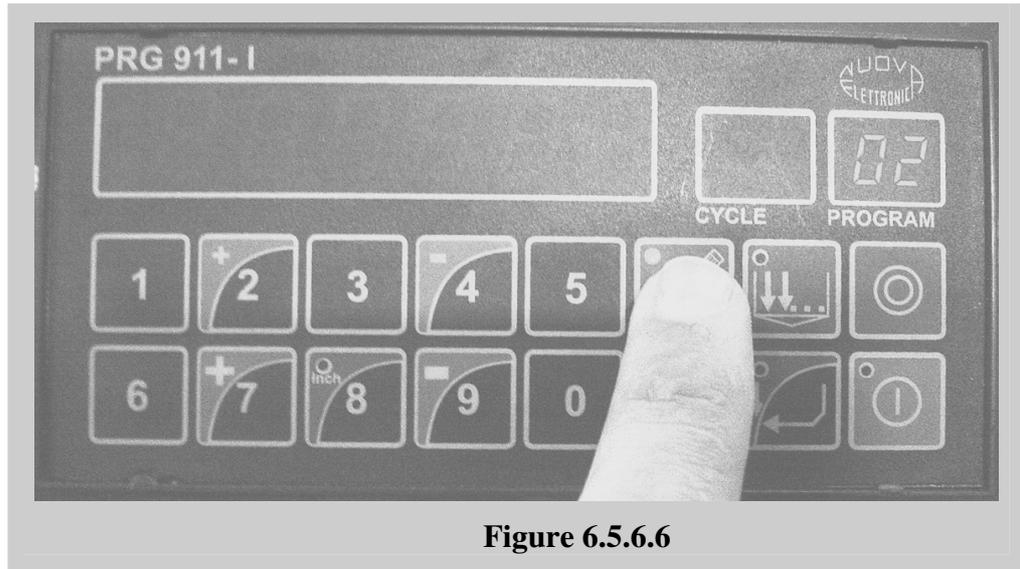

Figure 6.5.6.6
2. If you want to change the program number, write new program number by using numerical buttons and press the **enter**  key (see **Figure 6.5.6.7**).